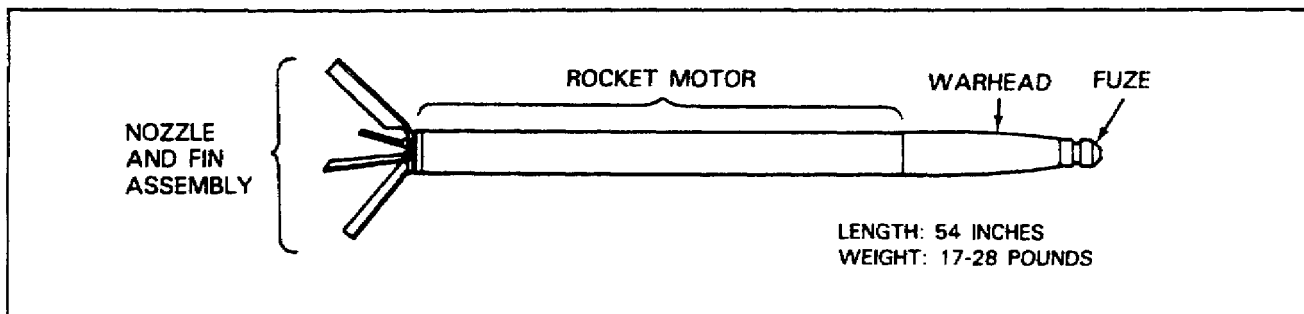

Figure 44. Typical 2.75-Inch Aircraft Rocket.
2.75-Inch Aircraft Rocket. The 2.75-inch low-spin, folding-fin aircraft rocket (LSFFAR)(Figure 44) is an air-to-ground rocket fired from helicopters or other low-speed aircraft.